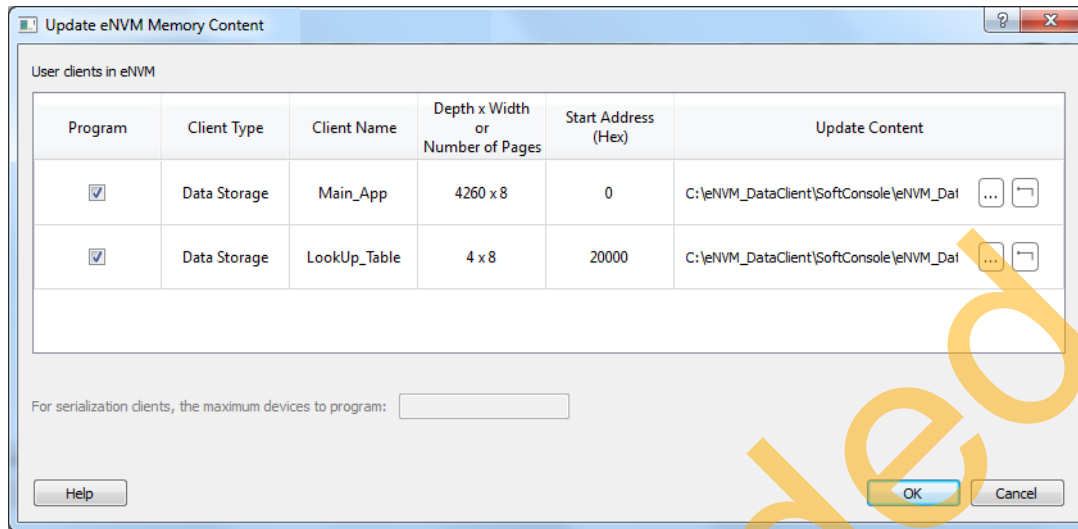
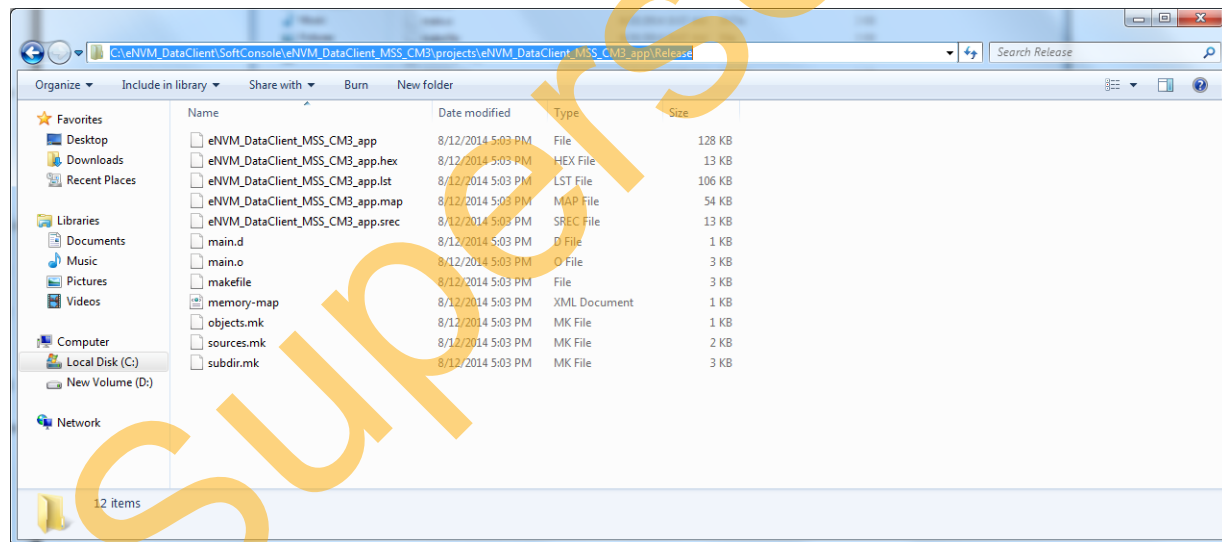

Figure 24 • eNVM Memory Content Window
Figure 25 • Updated Hex File in Release Folder
2. Update the **eNVM Memory Content** window as shown in Figure 24.
3. Click **Update Content** (see Figure 24) and browse through the updated .hex file generated in the Release Mode from the SoftConsole application project (see Figure 25). Click **Ok**.